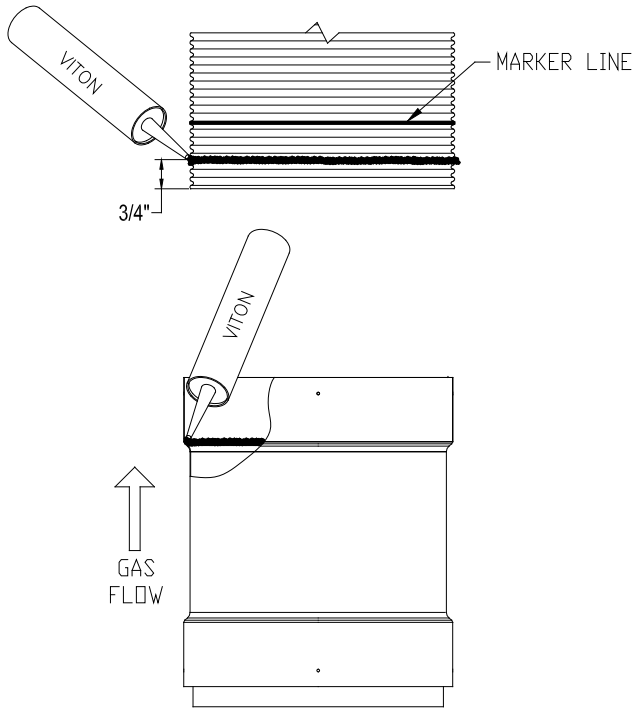

Figure 18 -SecureSeal Flex Viton® caulking
- 2.1. Add a bead of Viton® caulking (resistance to condensate) all around inside the adapter on the beginning of the flare. Add another bead of Viton® caulking all around the outside of the flexible liner at 3/4" from the edge (Figure 18).